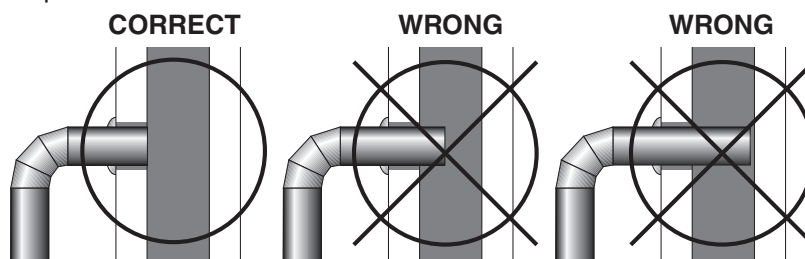

Fig. 10 – Stovepipe/Flue Connections
4. The pipe cannot extend into the chimney flue (fig. 10).
6. It is recommended that no more than two (2) 90 degree bends be used in the stovepipe installation. The use of more than two 90 degree bends may decrease the amount of draw and possibly cause smoke spillage. Where possible, use only corrugated (nonadjustable) elbows. These provide a better seal.
7. The connector pipe must not pass through an attic or roof space, trusses, closet, or any concealed space, or floor, ceiling, wall or combustible construction. (See Chimney Connector Systems & Clearances, page 19). A UL 103 HT (US)/ULC-S629 (CDN) listed chimney must be used from the first penetration of ceiling or wall to the chimney cap. Where passage through a wall or partition of combustible construction is desired, the installation shall conform to NFPA 211 (US) or CAN/CSA-B365 (Canada)